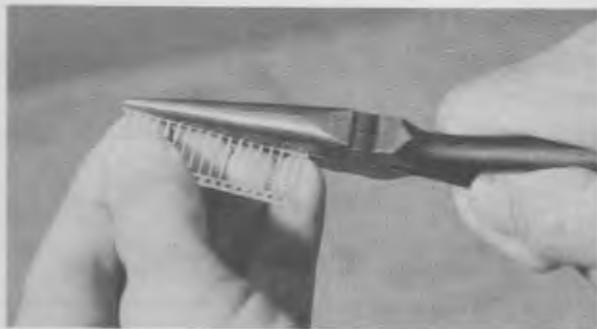

Fig. 4. Preparing the display connector.
- (1) Locate the 18-pin display connector (MS60) and examine it closely. You will notice that the pins are held between two carrier strips which have a series of holes punched in them. You will note further that there is a thick part on each pin near one end of the pin. Grasp the perforated carrier strip nearest the end of the pin that has the thick part with a pair of longnose pliers as shown in Fig. 4. While holding the pins in one hand, carefully break off the carrier strip nearest the thick part of the pins . . . . . ( )